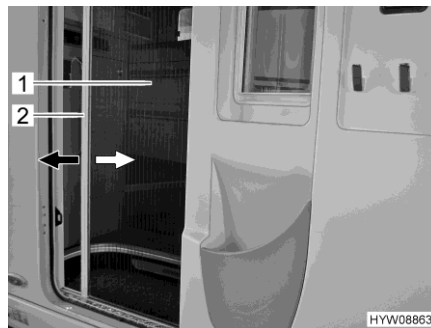

Fig. 59 Insect screen (living area door)
- Hold holding bar (Fig. 59,2) with both hands and pull the insect screen (Fig. 59,1) evenly out of the door holder.
- Hold holding bar (Fig. 59,2) with both hands and push the insect screen (Fig. 59,1) back into the door holder applying slight pressure.